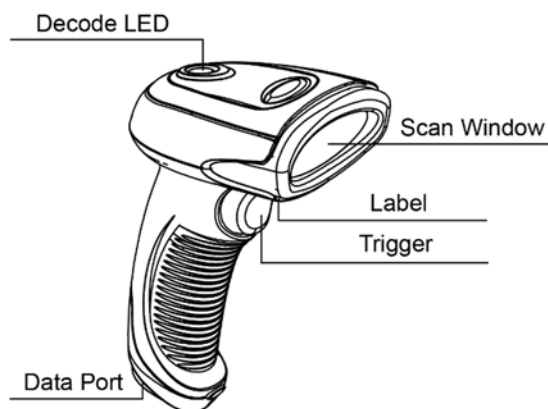

Fig. 1-1
1. Press and hold the trigger (see Fig.1-1). Then the scanner will project a red aiming beam.